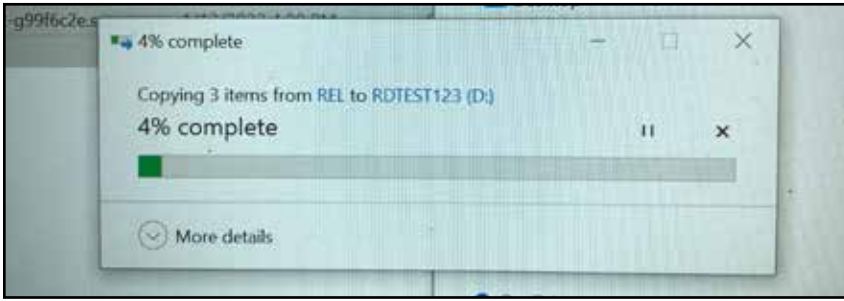

Figure 10
5. The files will copy over to your new jump drive (Figure 10).